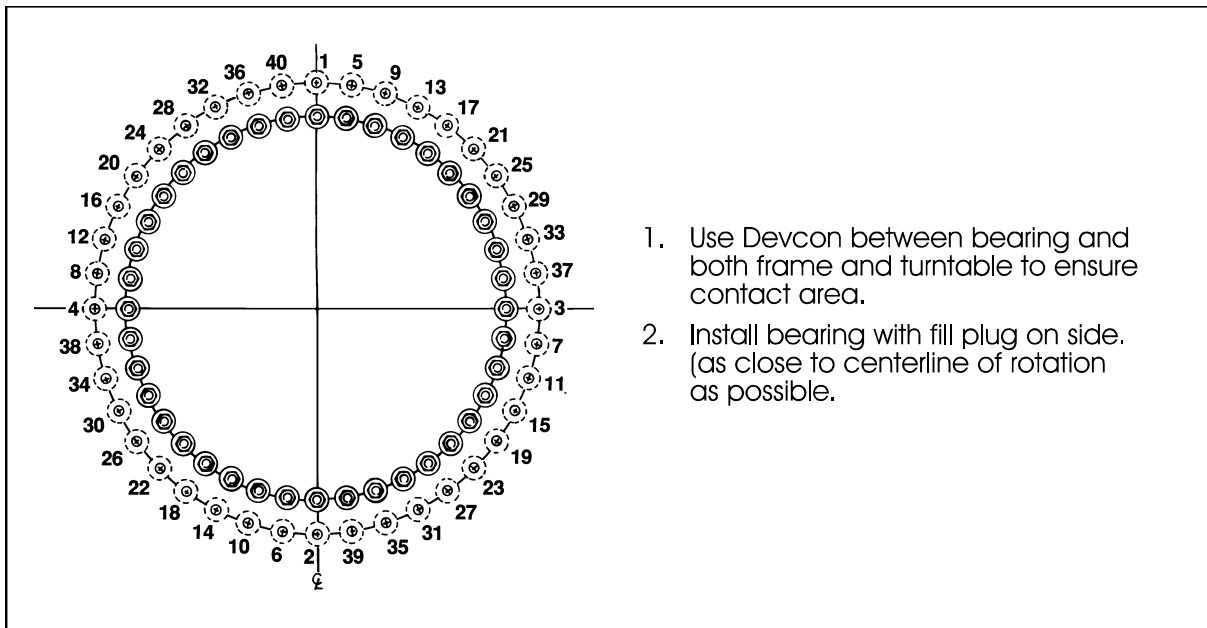

Figure 2-18. Swing Bearing Bolt Torquing Sequence
- c. Following the Torque Sequence diagram shown in Figure 2-18., tighten the bolts to an initial torque of 130 ft. lb. (177 Nm). Then following the same sequence tighten the bolts to a final torque of 170 ft. lb. (230 Nm) wet.
3. See Figure 2-18. for swing bearing bolt torquing sequence.